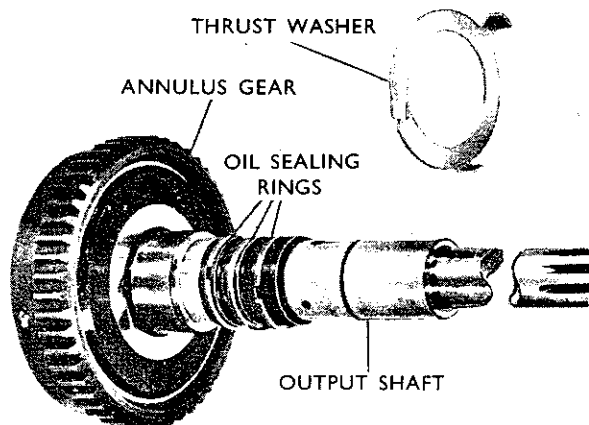

Fig. 45—Output shaft assembly and thrust washer
(1) Position the output shaft seal ring gaps uppermost in grooves, where installed.
(2) Attach the output shaft tabbed thrust washer using petroleum jelly (Petrolatum-vaseline) with the tab in the projections, on the rear face of transmission case (tab outward — Refer Fig. 45).
(3) Carefully install the output shaft rearward through the rear bearing of transmission, taking care not to damage the bearing surface with the seal rings, where installed.